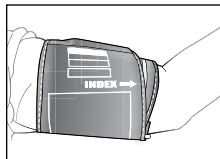

Fig. 6
4. The INDEX mark arrow should be within the range bar marking as shown, Fig 6; if the INDEX arrow is outside of the range, a different sized cuff is needed.